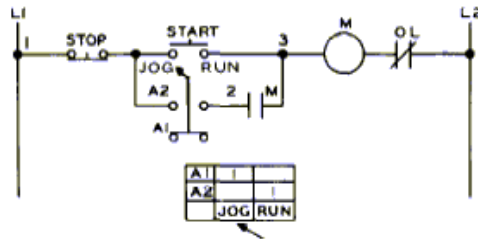

Fig. 23 Jogging.
11. Jogging: Selector Switch & Start Push Button (Fig.23)